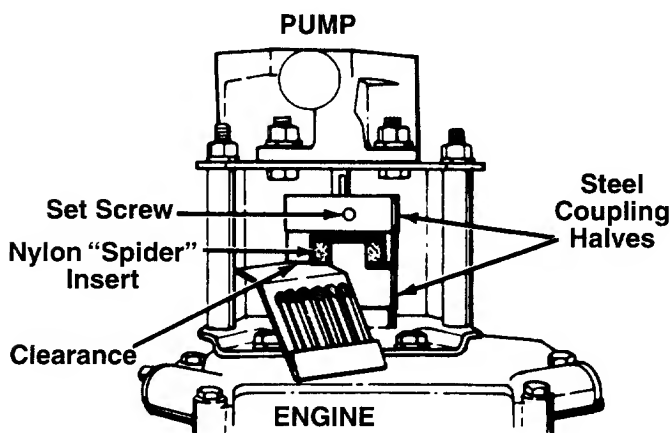

FIGURE 16.—Bottom View
11. Set .010 to .060 inch clearance between the nylon "spider" and the engine coupling half by sliding a matchbook cover between the nylon "spider" and the engine coupling half as needed. Secure pump coupling half with set screw. See figure 16.